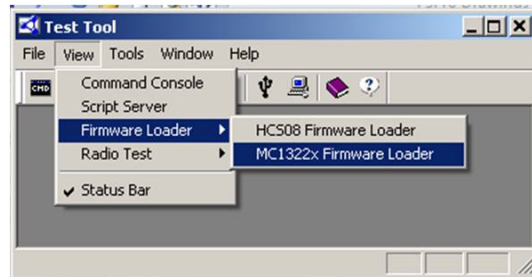
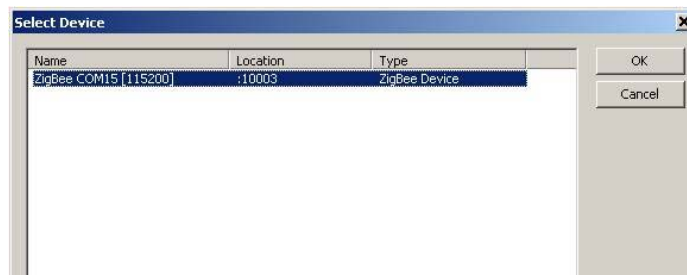
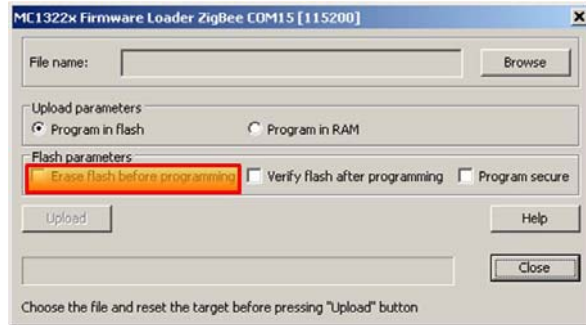

Figure 35 – Screen, FSTT – Firmware Loader
Figure 36 – Screen, FSTT – Device Selection
Figure 37 – Screen, FSTT – Firmware Loader Opening
- 6) As shown in Figure 35, click on the '**View**' menu, click on the '**Firmware Loader**' and '**MC1322x Firmware Loader**' in the Pop-ups. The screen in Figure 36 will appear. Select the device (defined in Figure 33) and click '**OK**'. The screen in Figure 37 will be displayed.